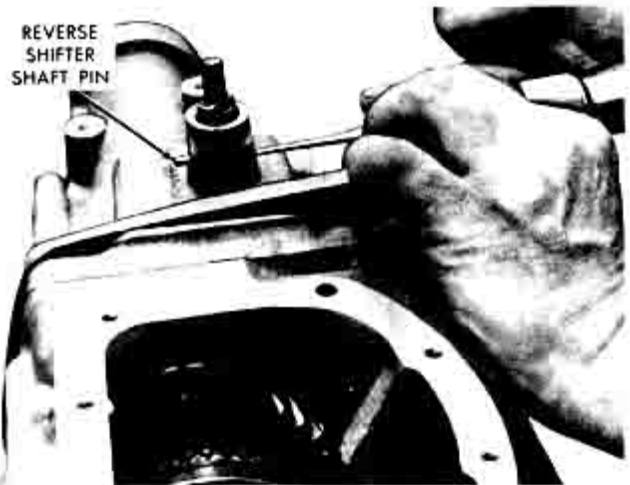

Fig. 2. Removing Reverse Shifter Shaft Lock Pin
3. Remove side cover attaching bolts (9) and slide side cover assembly (including both shift forks) away from transmission case. Remove and discard side cover gasket.
5. Remove reverse shifter shaft lock pin from its case extension boss and pull shifter shaft outward to disengage reverse shift fork from the reverse sliding gear (Figure 2).
6. Remove case extension attaching bolts (5), tap case extension rearward with a soft hammer and slide extension to rear until reverse idler shaft is clear of reverse idler gears. Then, rotate extension to the left to free reverse shift fork from collar of reverse sliding gear and remove the case extension. Remove and discard gasket.